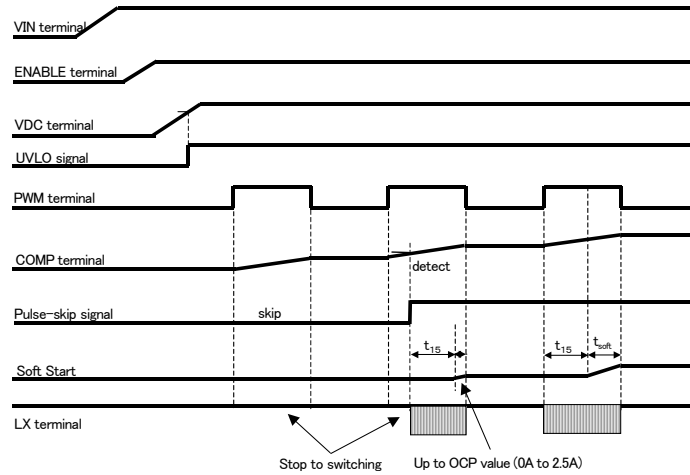

Figure 41. Soft Start
- Regulator (VDC) is operated after ENABLE=H. Inner circuit is operated after releasing UVLO. When boosting after releasing UVLO, soft start function is operated. Soft start circuit needs  $t_{15}$  (more than  $5\mu s$ ) such as Figure 41. Soft start is operated during  $t_{soft}$  time. Set PWM width "H" until soft start finishes.